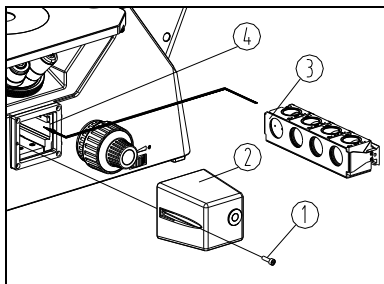
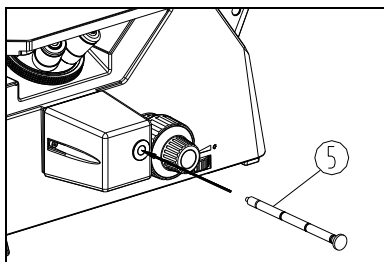

Fig. 23
Fig. 24
(1) Screw up the lock screw (1) by a M4 inner hexagon spanner, and move out the left cover (2).
(2) Align the dovetail interface of fluorescence filter blocks module (3) with the dovetail groove of guide base set (4), then gently push it into the guide base set (4), until a ticking is heard, it indicates the fluorescence filter blocks module is pushed to the right side operating position. It will sound a ticking everytime the operating position is reached. (See Fig. 23)
(3) Put on the left cover (2), and tighten the lock screw (1) by a inner hexagon spanner.
(4) Insert the fluorescence filter switch pole (5) into the hole of the left cover (2), aligning with the screw hole on the side face of the fluorescence filter module, then tighten it. (See Fig. 24)